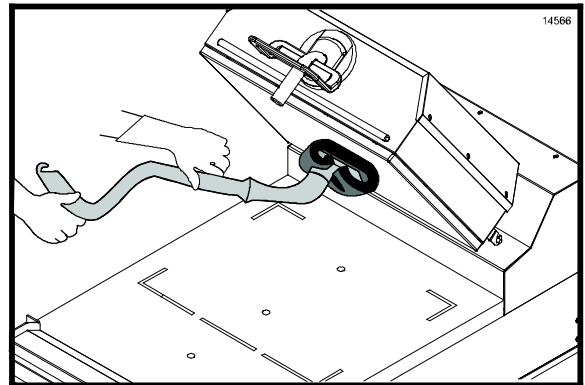

Figure 24
15. Apply the grill cleaner to the platen surfaces. (See Figure 24.)